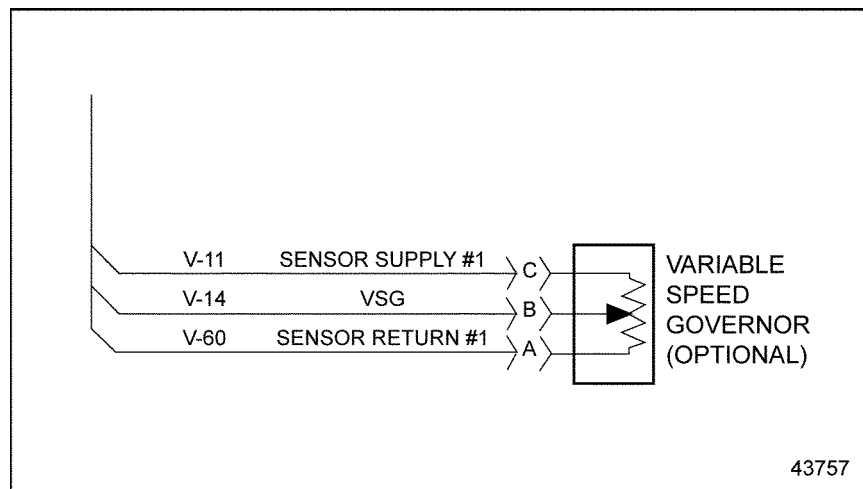

Figure 20-3 Variable Speed Governor Circuit
4. Measure resistance between sockets A and C on the hand throttle sensor harness connector. See Figure 20-3.
1. Install a jumper wire between sockets A and C of the hand throttle sensor harness connector. See Figure 20-3.